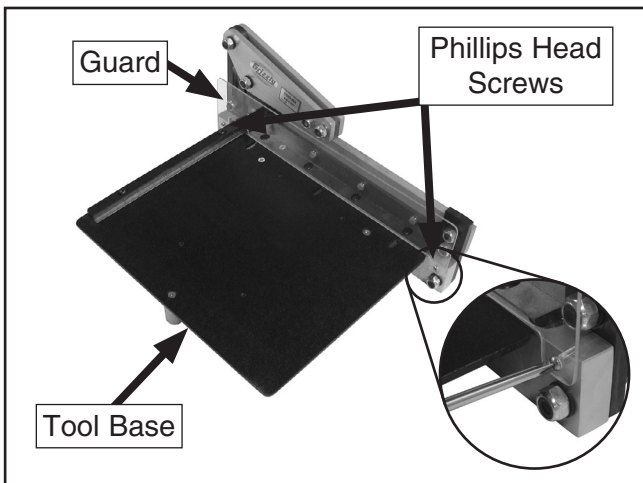

Figure 3. Safety guard attachment.
1. Attach the safety guard by removing the pre-installed Phillips head screws from the tool base, aligning the guard over the holes in the base, then securing it with the just-removed Phillips head screws (Figure 3).